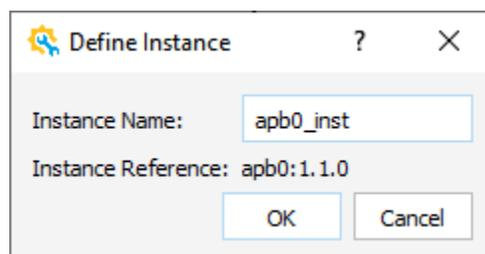

Figure 2.38. Define Instance Dialog Box
2. Right-click on the component you want to restore, and choose **Instantiate**. The Define Instance dialog box (Figure 2.38) open.